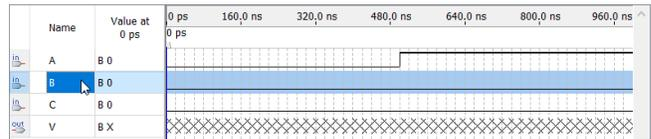

Figure 28. Waveform after selecting input B.
10. Click input port symbol of input **B** to highlight the whole frame of input **B** as shown in Figure 28.